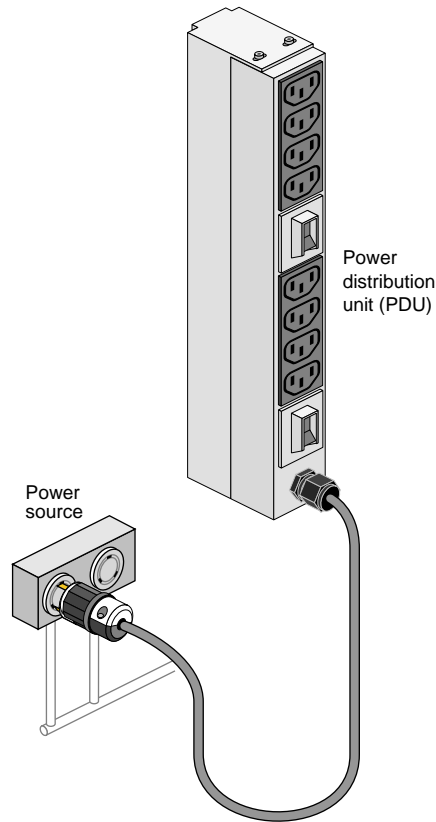
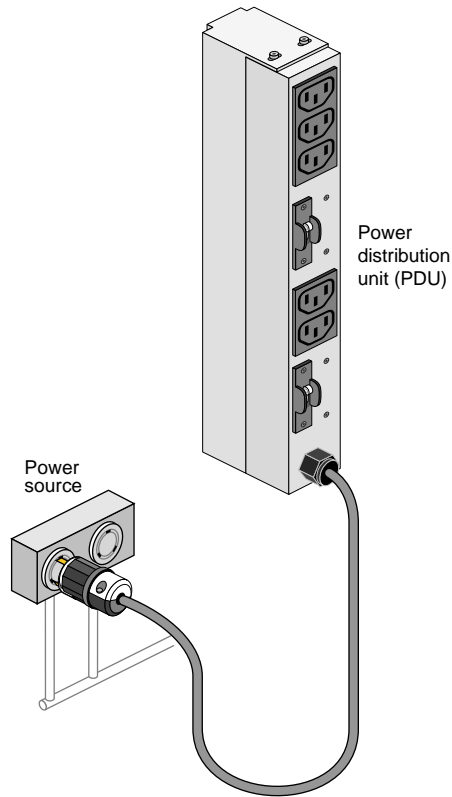
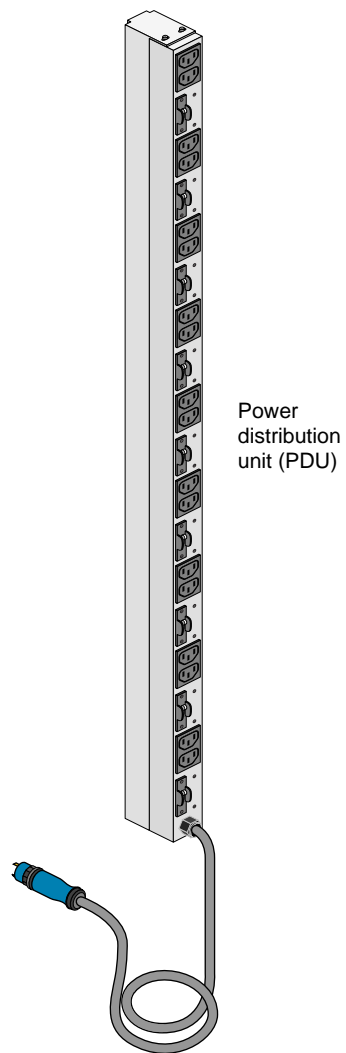

Figure 1-4 Eight-Outlet Single-Phase PDU Example
Figure 1-5 Five-Outlet Single-Phase Rack PDU Circuit Breaker Example
Figure 1-6 Three-Phase PDU Example
4. Make sure that all PDU circuit breaker switches (see the examples in Figure 1-4, Figure 1-5 on page 7 and Figure 1-6 on page 8) are turned on to provide power when the system is booted up.
Figure 1-6 shows an example of the three-phase PDU.